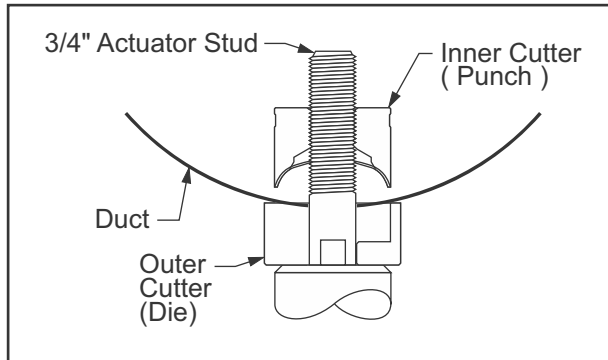

Fig. 32: 60mm Hydraulic Punch Configuration
3. 60mm Punch: Slide the 60mm die (for 2" test port) onto the 3/4" actuator stud with the open end of the die facing away from the actuator. Insert the 3/4" actuator stud into the 3/4" hole. From inside the duct thread the matching 60mm punch onto the 3/4" actuator stud with the cutting surfaces of the punch toward the duct. Continue threading the punch by hand until the die, duct, and punch are snug. Operate the hydraulic actuator to draw the punch through the duct material. Remove the punch and die. (Fig. 32)